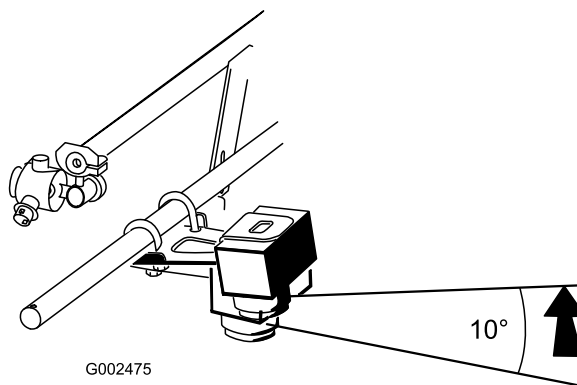

Figure 5
5. Rotate the sensor up so that it is approximately 10 degrees off parallel with the ground, then tighten the locknuts on the U-bolts to secure the sensor (Figure 5).